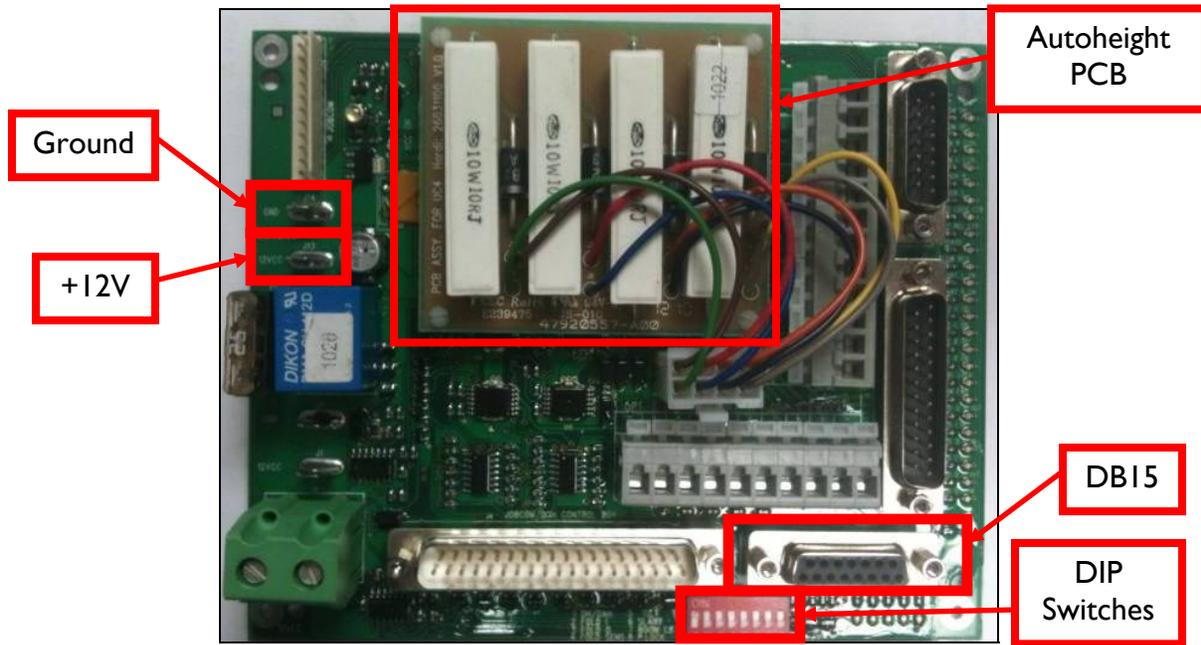

Figure 23: HARDI DAH09 Connections
9. Connect the red wire with spade connector on C12 to the switched 12VCC on the DAH09 board (**Figure 23**).
10. Connect the black wire with spade connector on C12 to the GND on the DAH09 board (Figure 23).